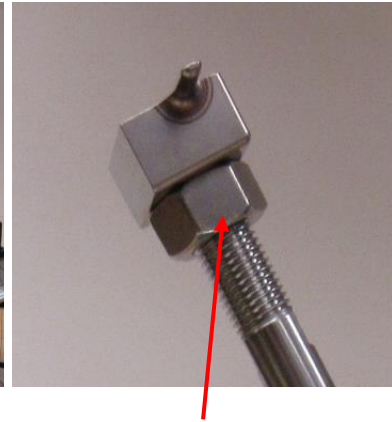

Figure 10: Jam nut
- Loosen the jam nut holding the upper jaw by holding the flat of the cylinder shaft with a 3/8" wrench and turning the hex nut with a 11/16" wrench. Rotate the jaw counterclockwise to remove it from the shaft. (Fig 10)